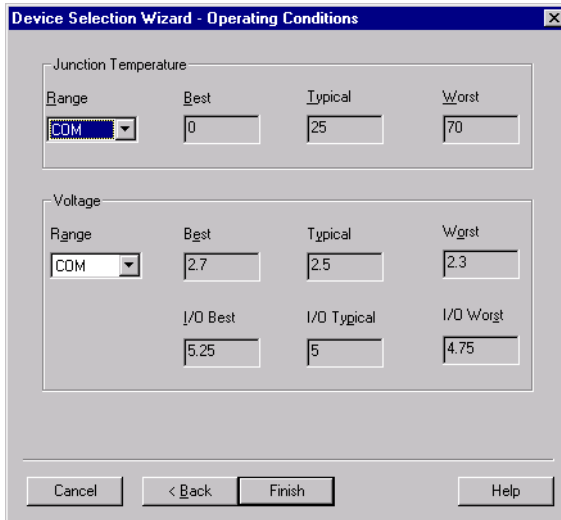

Figure 2-20. Device Selection Wizard, Operating Conditions
7. **Set Operating Conditions and Click *Finish*.** Use the Operating Conditions dialog box (see Figure 2-20) to define the voltage and temperature ranges a device encounters in a working system. Supported ranges include standard industry temperature and voltage ranges, including commercial (COM), industrial (IND), and military (MIL). This displays supported ranges. Select Custom in the pull-down menu to specify a custom range. The operating condition range entered in the Operating Conditions dialog box is used by Timer, the timing report, and the back-annotation timing function. These tools enable you to analyze worst, typical, and best case timing. The operating conditions are summarized in Table 2-3.